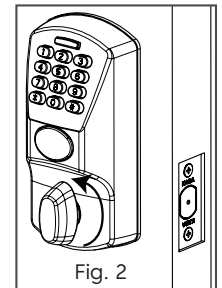

Fig. 2
4. Retract dead bolt from outside. See Fig. 2.